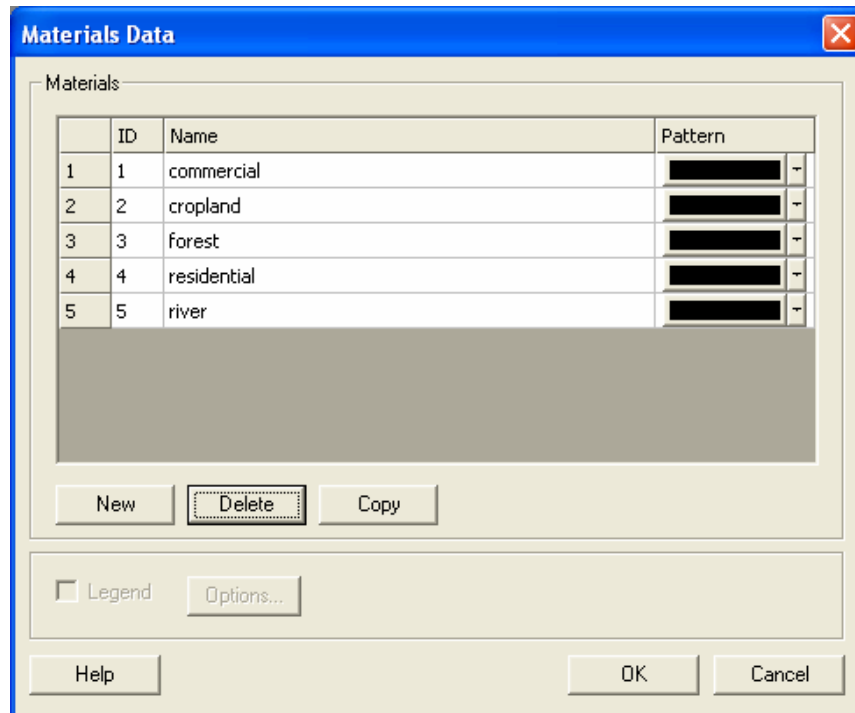

Figure 4-4: materials for use in the Area Property coverage
5. Rename the materials as shown below in Figure 4-4